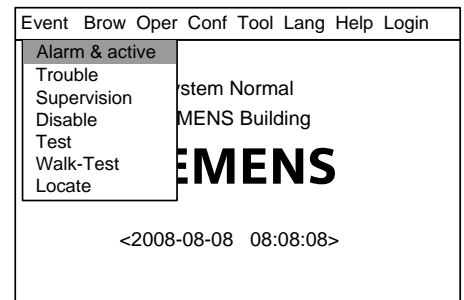

Fig.24-1
1. Press "Menu" to browse the main menu (Fig. 24-1)